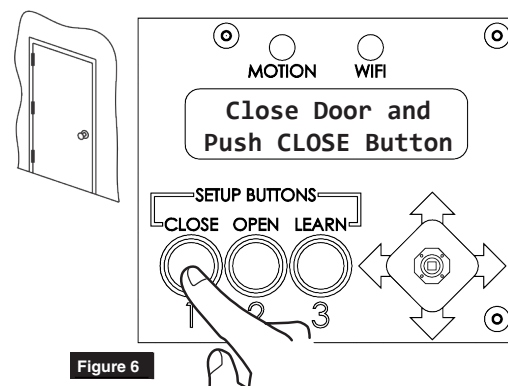

Figure 6
1. To set closed position, fully close door. Press and release CLOSE button on board. Flashing ORANGE LED should turn solid. (Figure 6)